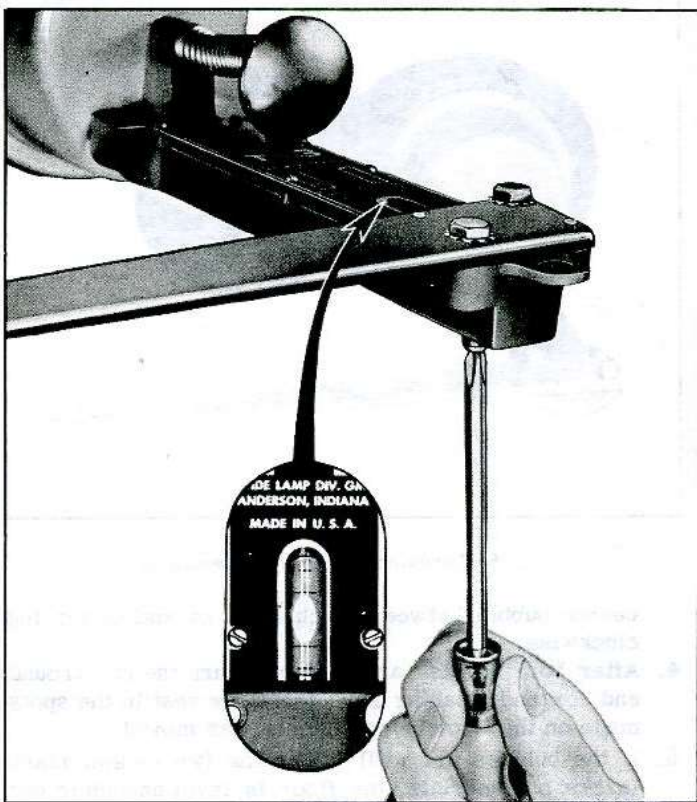

Fig. 8—Turning Level Adjusting Screw to Calibrate Aimer
5. Recalibrate aimers by turning screw shown in Figure 8 until the bubble is centered.